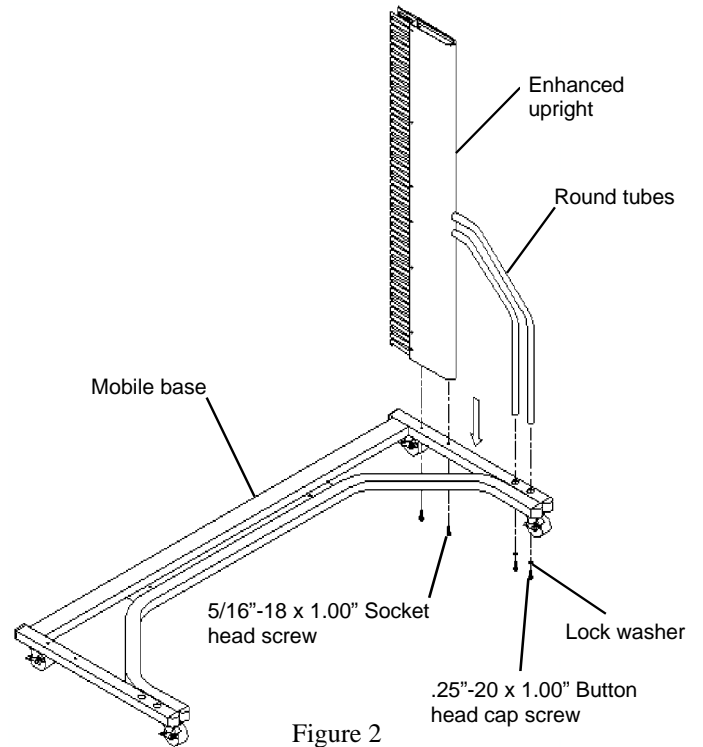

Figure 2
3. Re-assemble one Upright to the Mobile Base, keeping the side with no plugs to the inside. See **Figure 2**. **Insert the screws into the round tubes first**. Do not tighten the screws at this time. Slight movement may be needed when positioning the Full Frame.